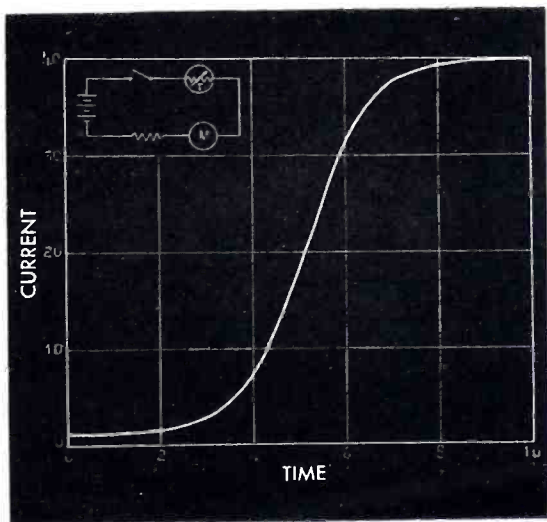

FIGURE 4 — Current-time characteristic showing the delayed build-up of current in a typical thermistor because of inherent thermal inertia.
*Current-Time Characteristics:* The change in resistance of thermistors with change in current does not occur instantaneously because of their inherent thermal inertia. If a thermistor is placed in series with a source of voltage, a delayed building up of current following closure of the circuit will be found. A representative characteristic is shown in Figure 4. The initial current which is determined by the cold resistance of the thermistor, is small, and rises slowly at first, then more rapidly as the thermistor becomes heated.